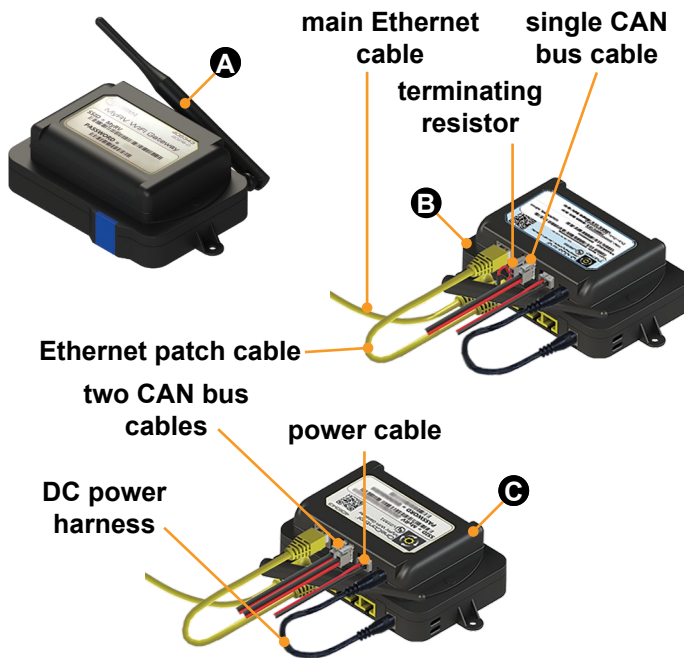

Fig.4
3. Disconnect remaining power and Ethernet cables (Fig.4).
- B. If the Cellular Gateway controller will be at the beginning or end of the CAN bus daisy chain (Fig.4), reconnect the CAN bus cable and install the previously removed terminating resistor (Fig.7).